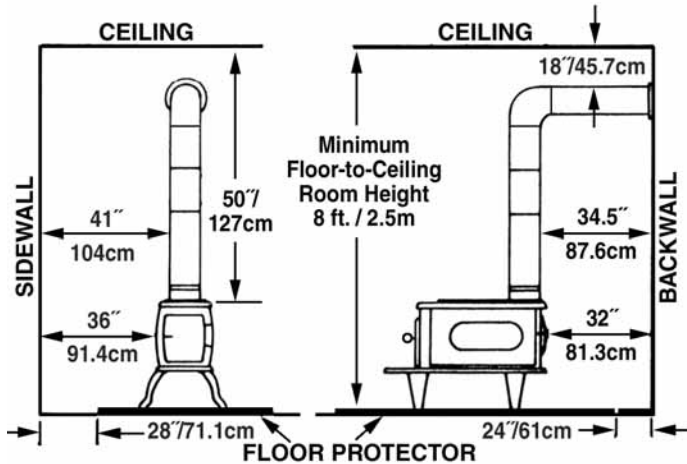

Figure 7 – Minimum Clearance Dimensions from Combustible Surfaces
- The stove must be placed on solid concrete, solid masonry, or when installed on a combustible floor, on a Type 2 floor protector listed to Underwriters Laboratories Listed Standard UL 1618, such as Hy-C or Imperial Model UL 2851BK. All manufactured floor protection must be solid-surface non-combustible material and have an **R-value of 1.19** or equivalent. Floor protection must have a **minimum thickness of 1 1/25.4mm**. (R value = 1.19, K value = 0.84 see page 17 to calculate R-factors of alternative materials). The floor protector must extend at least 18 3/46cm beyond the front of the access door, 8 3/21cm to the sides, 8 3/21cm beyond the rear of the stove, and **must** extend under the stove pipe and 2 3/50mm on either side if it is elbowed towards a wall (see figure 7 & 9 and consult local building codes and fire protection ordinances.)
CAUTION: (FIRE HAZARD) CARPETING AND OTHER COMBUSTIBLE MATERIAL MUST NOT COVER THE FLOOR PROTECTOR. THESE MATERIALS MUST REMAIN OUTSIDE OF COMBUSTIBLE CLEARANCES, SEE FIG. 7 - 9.
- After observing the clearances to combustible materials (figures 7–9), locate your floor protector accordingly (figure 7) and carefully place the stove in your selected location. Install connector pipe, elbows, and thimble as required, utilizing either a recently cleaned and
- Use round 6 3/152mm dia., minimum 24 MSG black or 26 MSG blue steel stove pipe to connect the stove to the chimney. Do not use galvanized stove pipe. Secure connector pipe to the flue collar with three (3) sheet metal screws. Use three screws in each stove pipe and/or elbow joint to firmly hold the pipe sections together. **DO NOT** connect this stove to any air distribution or duct system.
- Recheck clearances from the stove, connector stove pipe, and corner clearances using the illustrations in figures 7–9 and your local building codes or fire protection ordinances.